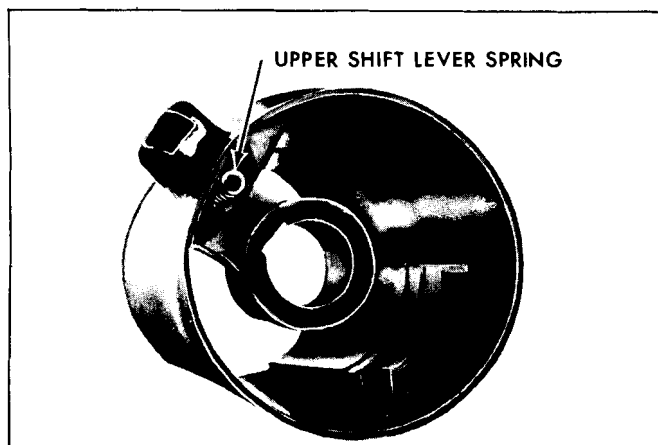

Fig. 9-57 Upper Shift Lever Spring
27. Remove upper shift lever spring from shift bowl by winding spring up with pliers and pulling out (Fig. 9-57).